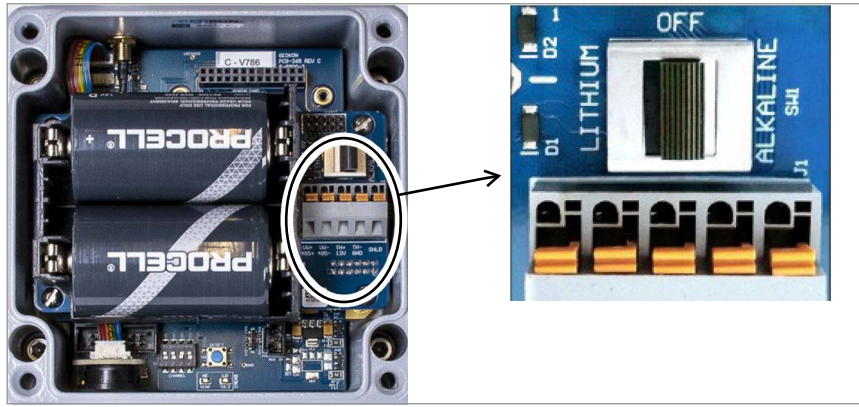

FIGURE 11: Battery Switch Location and Detail
2. Move the battery select switch to either the ALKALINE or LITHIUM position depending on the type of battery being used (Figure 11).